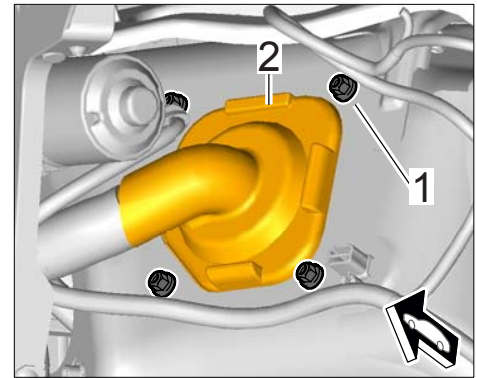

Figure 15
- 2 Check that rubber sleeve on main wire harness ⇒ *Figure 15 -2-* is fitted correctly all the way around and adjust it if necessary.
Also check the tightening torque of the fastening screws ⇒ *Figure 15 -1-*. **Tightening torque 9.7 Nm (7.5 ftlb.)**